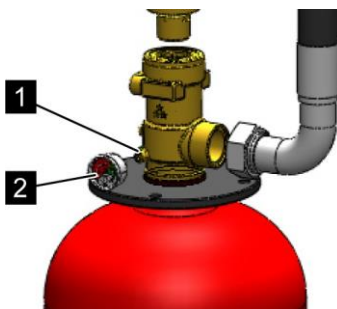
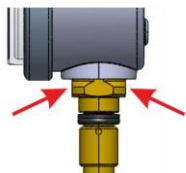

Fig. 187: Contact pressure gauge
Fig. 188: Key surface
1. ➤ Unscrew the contact pressure gauge (Fig. 187/2) out of the valve (Fig. 187/1) by hand. If the contact pressure gauge is difficult to turn, unscrew the contact pressure gauge on the key surface SW14 (Fig. 188) with a suitable tool.
4. ➤ Screw the contact pressure gauge into the connection on the valve (Fig. 187/1) as far as it turns easily *by hand*.
5. ➤ As soon as the contact pressure gauge is under pressure and is thus more difficult to turn, turn the contact pressure gauge on the key surface SW14 (Fig. 188) with a suitable tool until the stop in the connection.